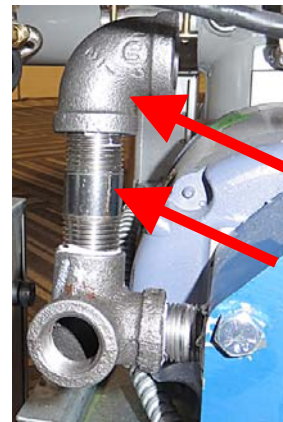

Figure 62
60. Apply Loctite to both ends of the 2" nipple (8130298). Insert the nipple into the top of the 90° elbow with outlet, attached to the pump, in the previous step (see Figure 62).